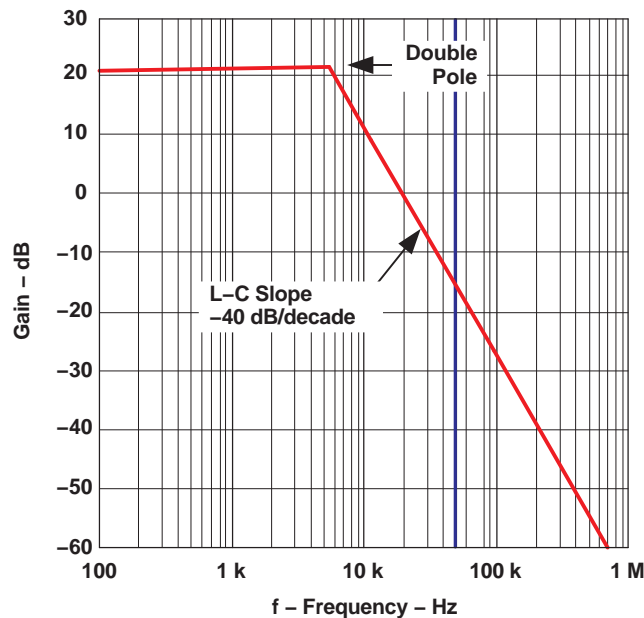

Figure 25. PWM and L-C Filter Gain
A Bode plot of the PWM and LC filter is shown in Figure 25.
4. From Figure 25, the required gain is calculated at 15.8 dB. Equation 45 sets the value for  $R_{PZ2}$ . A resistor for  $R_{PZ2}$  with value of 12.7 k $\Omega$  is used.  $C_{Z2}$  is calculated using Equation 49 and the desired frequency for the second zero,  $C_{Z2} = 1475$  pF. A 2200 pF capacitor is used.